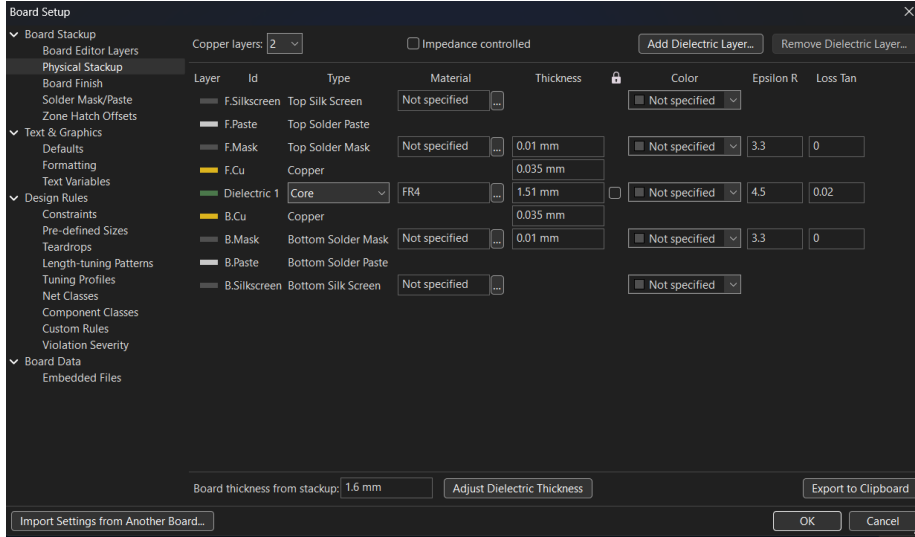

Figure 9: Stackup of your Board
**This section is important for manufacturability, so read and see figures carefully.** On your PCB Editor you have a page called board setup, this page most importantly determines your constraints, pre determined sized and layers. It can be opened by accessing Files→Board Setup, here let's start with the Physical Stackup, **for the purpose of manufacturing, keep it default, so it should look like Fig. 9.**